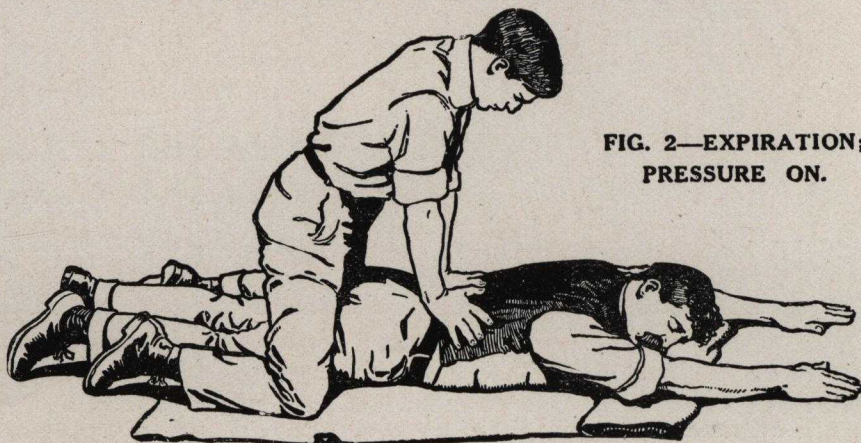

FIG. 2—EXPIRATION;
(4) With arms held straight, swing forward slowly so that the weight of your body is gradually brought to bear upon the subject (see Figure 2). This operation, which should take from two to three seconds, *must not be violent*—internal organs may be injured. The lower part of the chest and also the abdomen are thus compressed, and air is forced out of the lungs.